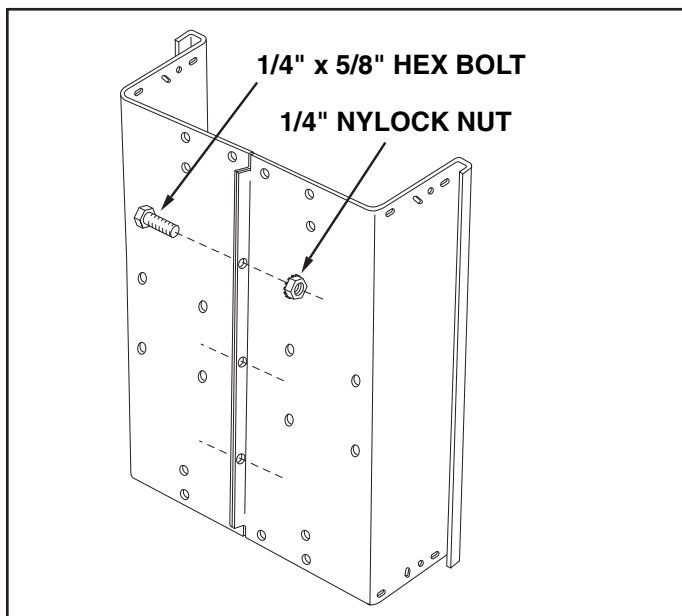
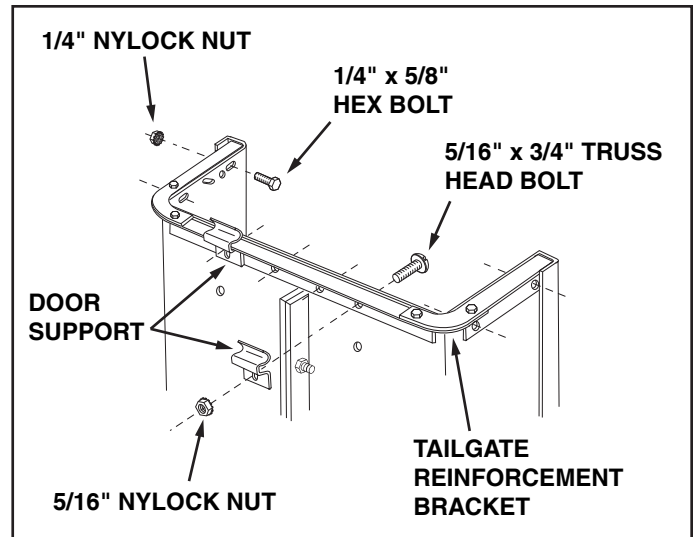

FIGURE 1
FIGURE 2
- 1. Place cart body halves upright on a smooth level surface such as a garage floor or a paved driveway. See figure 1.
- 2. Assemble cart body halves together using three 1/4" x 5/8" hex bolts and 1/4" nylock nuts as shown in figure 1. **Do not tighten yet.**
- 3. Fit the tailgate reinforcement bracket over the end of the cart bed. Position the two door support brackets on the bottom of the reinforcement bracket as shown in figure 2. Fasten the reinforcement bracket and the door supports to the bottom of the cart using four 5/16" x 3/4" truss head bolts and 5/16" nylock nuts. **Do not tighten yet.** See figure 2.
- 4. Fasten the tailgate reinforcement bracket to the sides of the cart body using four 1/4" x 5/8" hex bolts and 1/4" nylock nuts as shown in figure 2. **Do not tighten yet.**
- 5. Pull the cart body halves together. **Tighten** the four truss head bolts in figure 2. **Tighten** the four hex bolts in figure 2. **Tighten** the three hex bolts in figure 1, keeping the bottom aligned and pulled together.